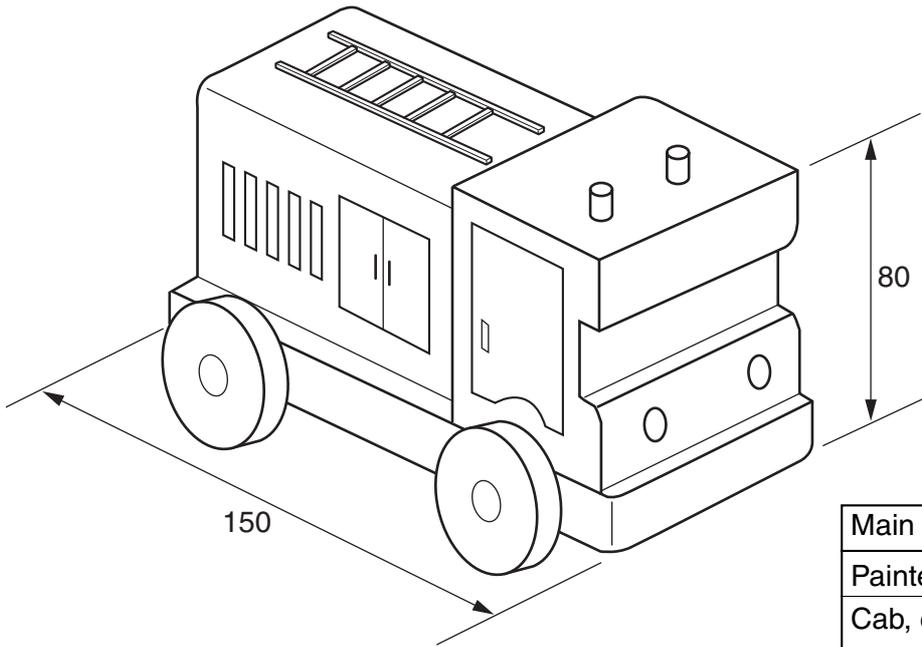

Fig. 6
- 5 Fig. 6 shows a toy fire engine made from solid wood suitable for use by children aged 3-6 years.